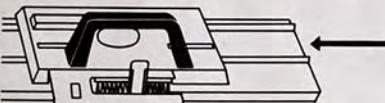

Fig. 2
2. Slide lock into main rails, fig. 2.